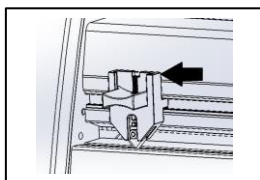

Figure 7
- J. **REAR SLITTER:** (figure 7) Used to cut the film when it exits the rear of the laminator.